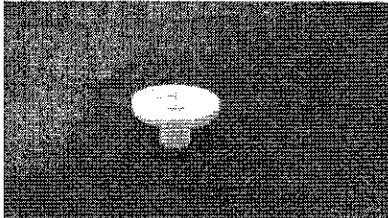

figure 3
- 2.5 Remove plastic grommets from hardware kit, two per active door (see figure 3 below).